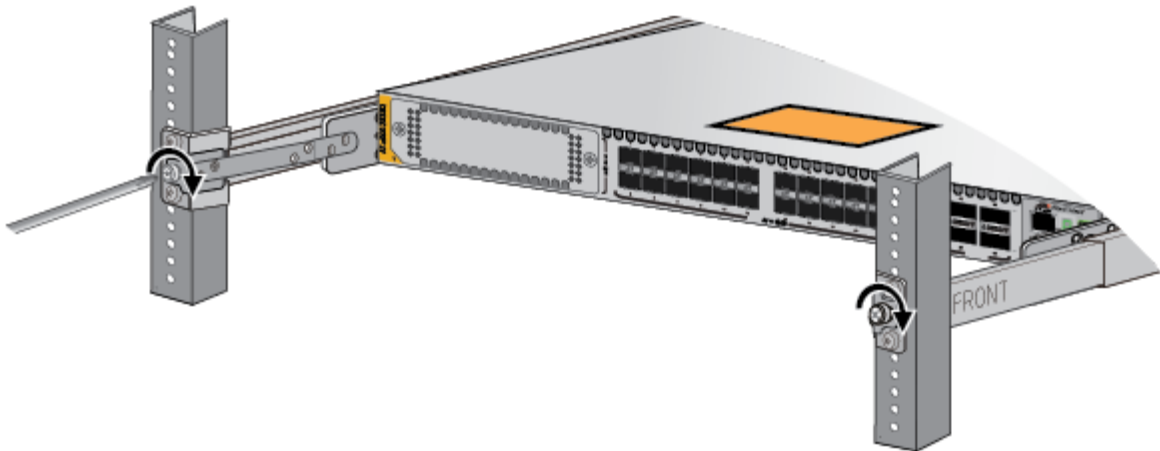

Figure 118. Tightening the Two Screws on the Fixed Brackets
4. Tighten the two screws on the fixed brackets to secure the switch to the equipment rack. Refer to Figure 118.